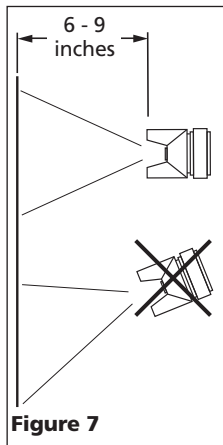

Figure 7
1. Begin spraying. Always keep the gun at right angles to the work (See Figure 7).